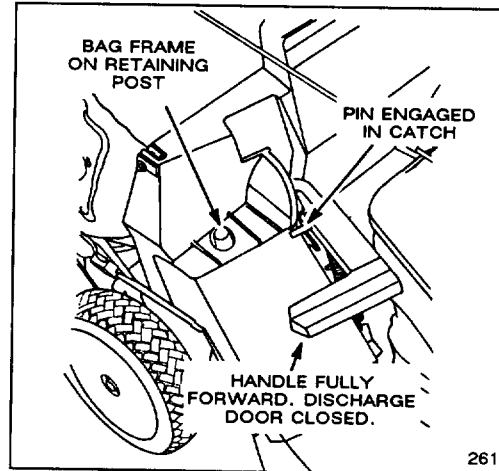

Figure 14
2. Ensure discharge door handle is fully forward and pin is engaged in catch (Fig. 14).
3. **INSTALLING BAG**—Slide hole in bag frame onto retaining post on housing (Fig. 14) and set rear of bag frame onto lower handle.
catch (Fig. 14). Grasp handle at front and rear of bag and lift bag off mower. Gradually tip bag forward to empty clippings.